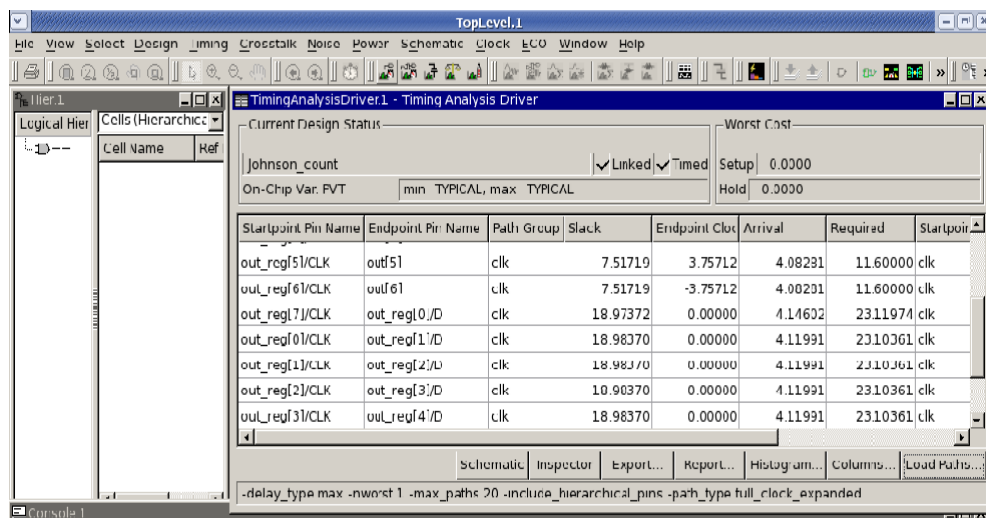
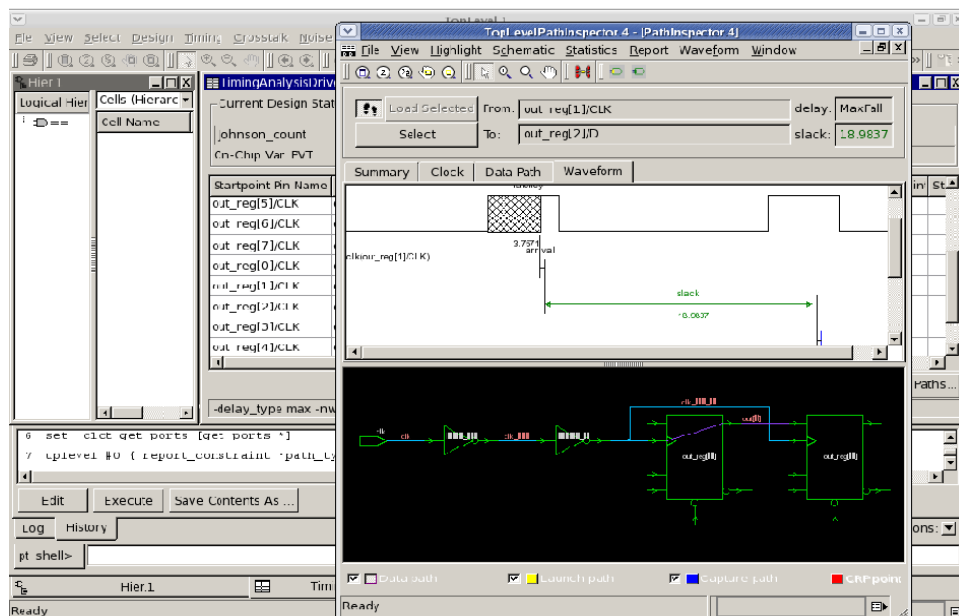

Fig. 2. The Timing Analysis Driver
Fig. 3. Path Inspector console
8. Read the design netlist. (Fig. 2) PrimeTime accepts design gate-level netlists in Verilog and VHDL formats. Read design netlist with the following command: read_verilog, read_vhdl.
The report can also be seen in the Timing Analysis Driver Console by remarking one of the rows and clicking the inspector button. See Fig. 2, and Fig.3.